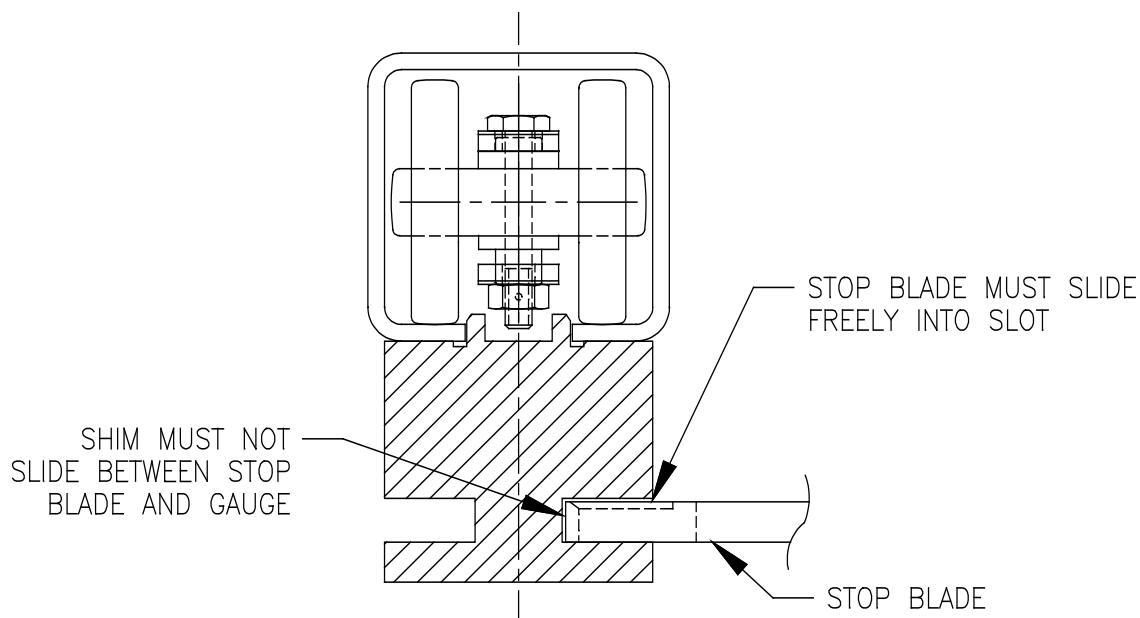

Figure 3. Section View of Gauge and Stop Blade
3. If the blade does not slide through gauge, adjustments may be necessary. See figure 3 for proper blade adjustment.
3. Extend stop blade into the track so the air cylinder is in the closed position. Slide the gauge directly in front of the stop blade, keeping it flush against toe. If the gauge will not slide over the blade, it is set improper. Refer to Figure 3 for placement of the blade.